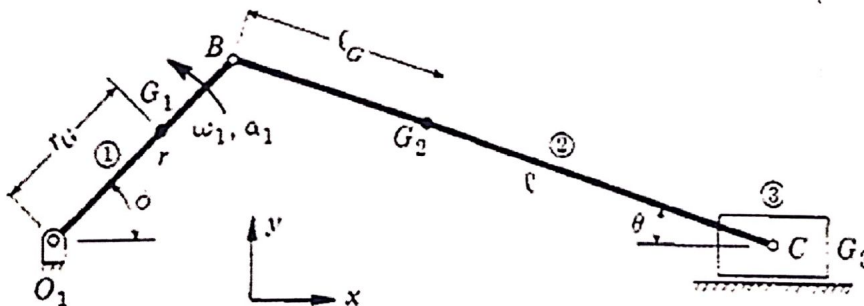

**Figure 1**
- (a) Draw **fully labeled FBD's** that would be used to solve the four-bar linkage in Figure 1 by superposition method. *Note: Only the FBD's are required; no need to solve the problem. Your diagrams should show all the external forces and torque(s) and reactions at the bearings.*
- (b) State the steps you would use to determine the input torque  $T_2$  in the mechanism of Figure 1 using the principle of superposition (*Note: only the steps are required not the full calculation*).